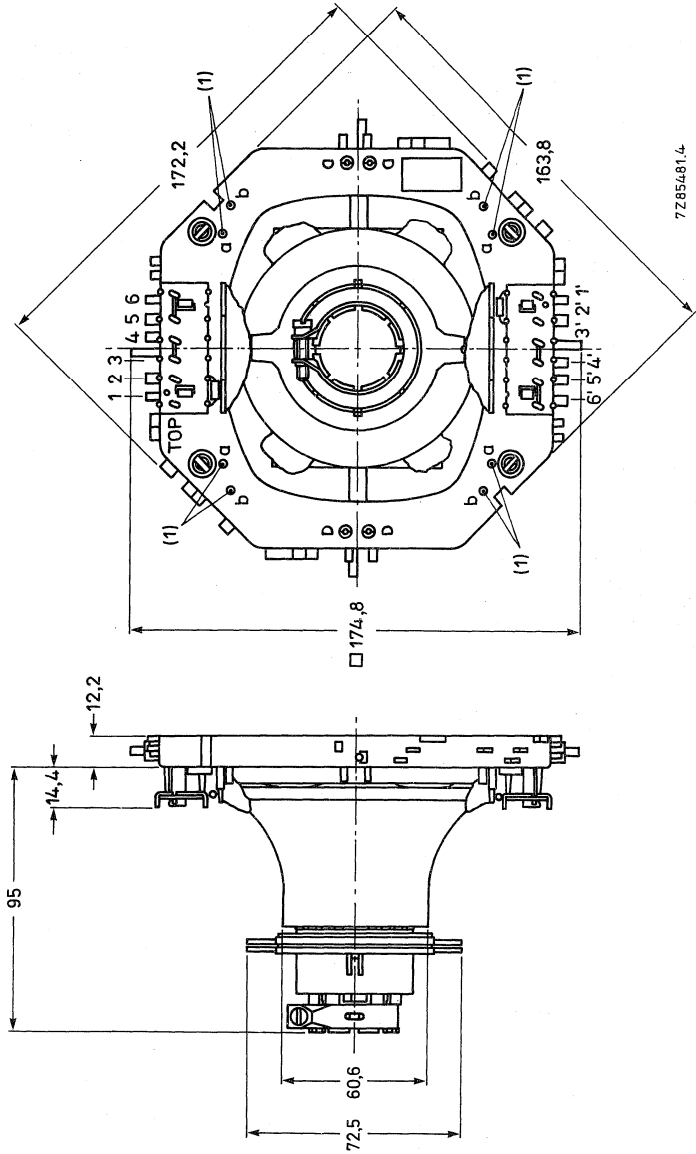
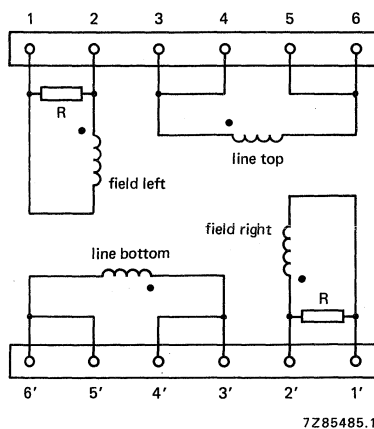

Fig. 1 Deflection units AT1039/08 and AT1039/09.
Fig. 2 Diagram of line and field coils; R = 270 Ω . The beginning of the windings is indicated with ●.
If a further improvement of raster geometry is required use can be made of correction magnets*, which must be fitted to mounting posts (1); posts a to be used for AT1039/08, posts b for AT1039/09. The unit has solder pins for connection. The pin numbering in Fig. 1 corresponds to that in Fig. 2.